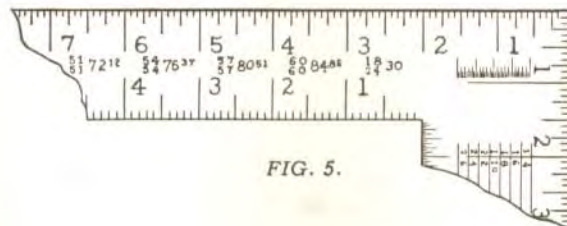

FIG. 5.
7. **HUNDREDTH SCALE.** This scale is located on the back of the tongue, in the corner of the Square, near the Brace measure. The Hundredth Scale is "one inch divided into one hundred parts." With the aid of a pair of dividers decimal fractions of an inch can easily be obtained. Fig. 5.